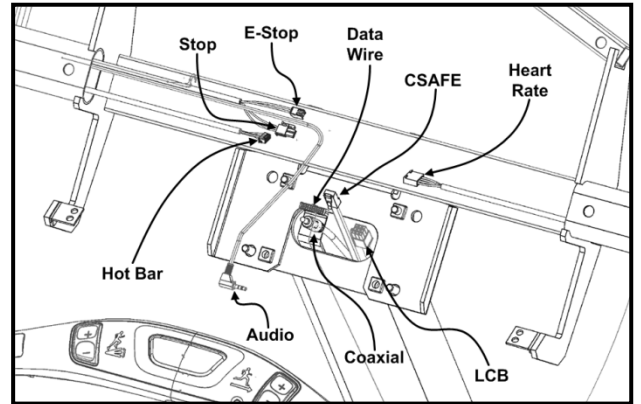

Fig. 16
16. Mate all the applicable electrical connections to the back of display electronics board (Fig. 16).